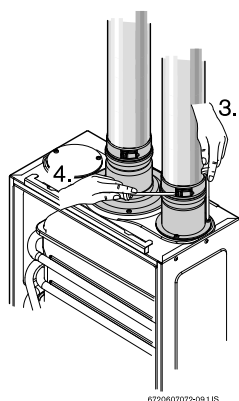
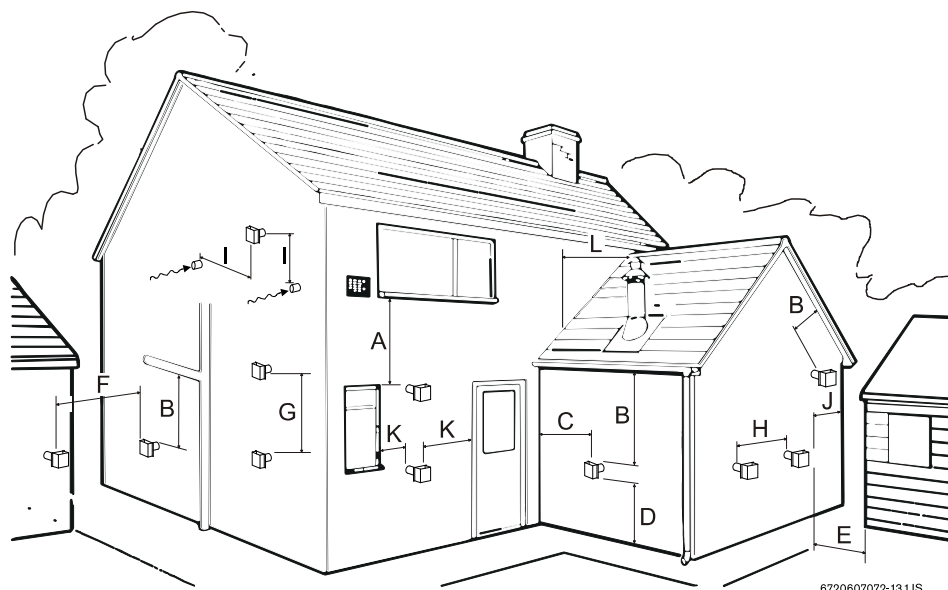

Fig. 10
Fig. 16
The 250 SX is a sealed water heater and it's recommended that outdoor combustion air be supplied to the unit (TWIN PIPE SYSTEM). The combustion air pipe system may be constructed of either 3" aluminum or aluminum flex, PVC or galvanized pipe. See Fig. 10, 12 and 13. Select a point for building penetration being sure that a 3 foot minimum distance is maintained between the combustion air terminator and the exhaust vent terminator. see Fig. 16 Letter I. NOTE: Observe all local building codes when penetrating a building wall.
**NOTE: The combustion air inlet location on the side of a building must never be less than 3 feet away from the units exhaust vent terminator, see Fig. 16 Table 4.**